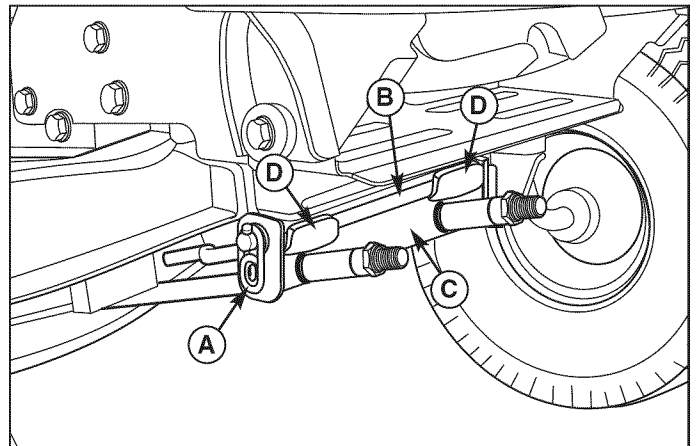

Figure 16. Mower Hitch
6. Turn wheels straight ahead. Support the mower hanger (C). Remove safety clip (A, Figure 16) and rod (B). Lower the mower hanger (C).
3. Turn wheels straight. Lift the mower hanger (C, Figure 16). Insert rod (B) through mower hanger (C) and tractor brackets (D). Secure with safety clip (A).